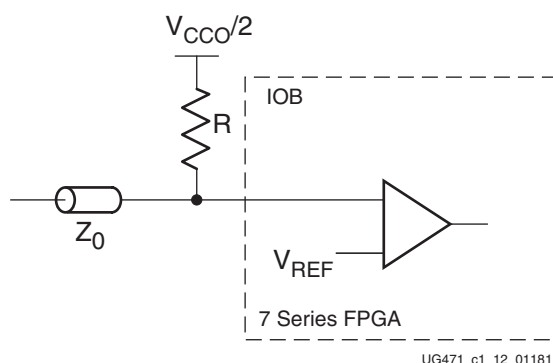

Figure 1-10: Input Termination to $V_{CCO}/2$ without DCI
Some I/O standards (e.g., HSTL and SSTL) require an input termination resistance (R) to a V_{TT} voltage of $V_{CCO}/2$ (see Figure 1-10).